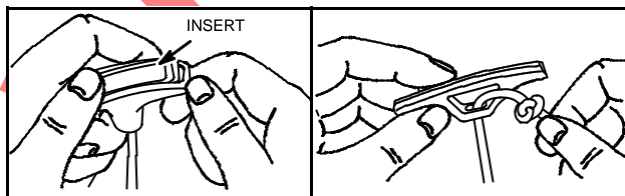

Fig. 624 – REMOVING ROPE FROM GRIP
10. Remove rope from grip, as shown in Fig. 624.